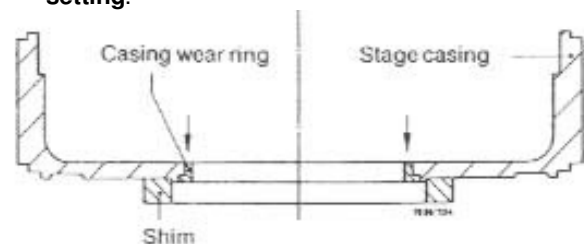

Figure 32
1. Push the casing wear rings out of their seats taking care not to damage the seats (see Fig. 32).
3. Smooth down all impellers (230, 231) in the region of the fitted impeller wear rings (503) to a common diameter, basing this on the most heavily scored impeller wear ring. Individual deep grooves can be left untouched.
5. Align the stage casing (108) and suction casing (106) with fitted casing wear ring to the outer fit and machine the wear ring **in one machine tool setting**.